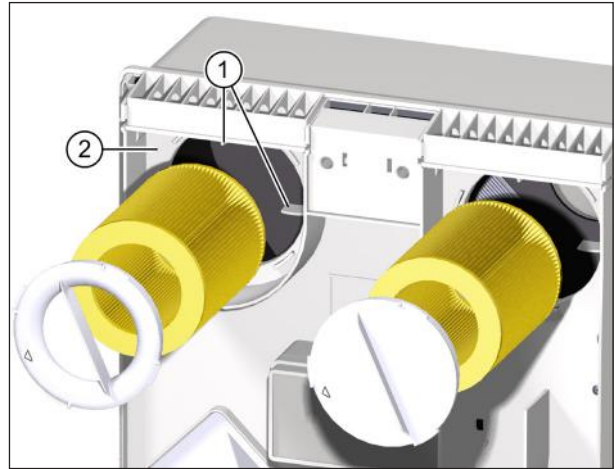

Fig. 15: Insert air filters
- ▶ Make sure that the air filter slides into the four retaining tabs (item 1 in Fig. 15) on the back wall of the ventilation unit.
- ▶ Place the filter ring on the extract air filter. Make sure that the filter ring lies flat on the intermediate plate (item 2 in Fig. 15).